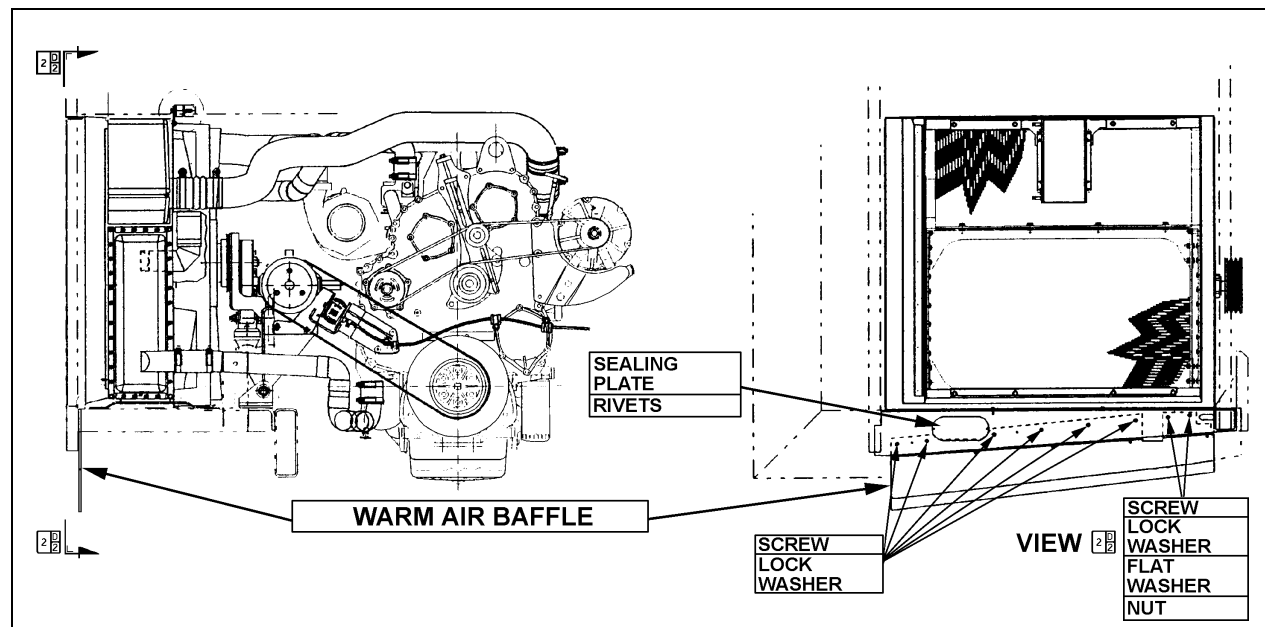

FIGURE 5 : XL-40 AND XL-45 COACHES WARM AIR BAFFLE
4. Use 6 screws and 6 lock washers for the six L.H.side holes and use 2 screws, 2 lock washers on exterior side and 2 flat washers and 2 nuts between muffler and chassis for the two R.H.side holes (refer to fig. 5).
1. Open engine radiator door, remove holding strap from door and also door stop located at bottom R.H. side corner (refer to figures 5 and 7).
4. Use 6 screws and 6 lock washers for the six L.H. side holes and use 2 screws, 2 lock washers on exterior side and 2 flat washers and 2 nuts between muffler and chassis for the two R.H. side holes (refer to fig. 5).